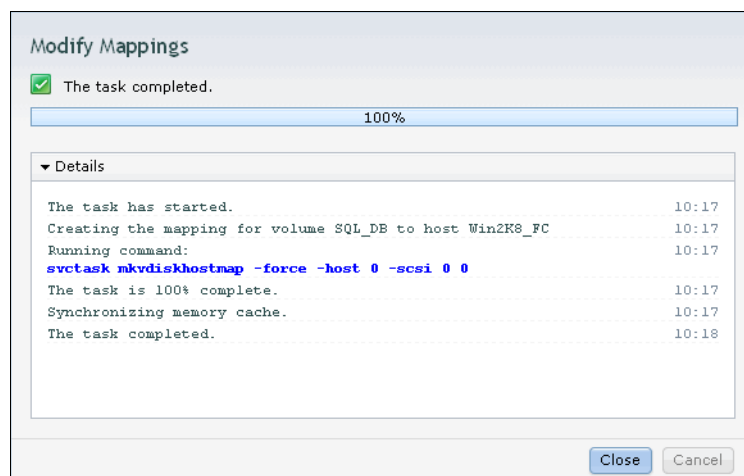

Figure 5-22 Modify Mappings complete
- After the task completes, click **Close** (as shown in Figure 5-22), and the wizard returns to the All Volumes window.